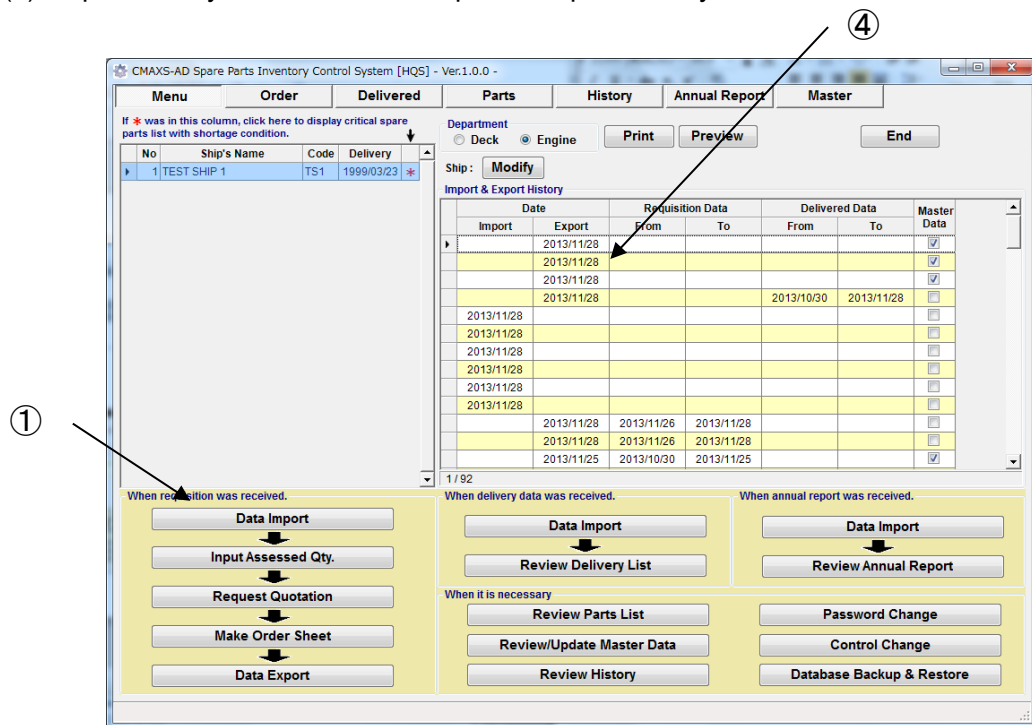

Fig.6-1 Menu Screen
(1) On the "Menu Screen"(Fig.6-1), select [Data Import].